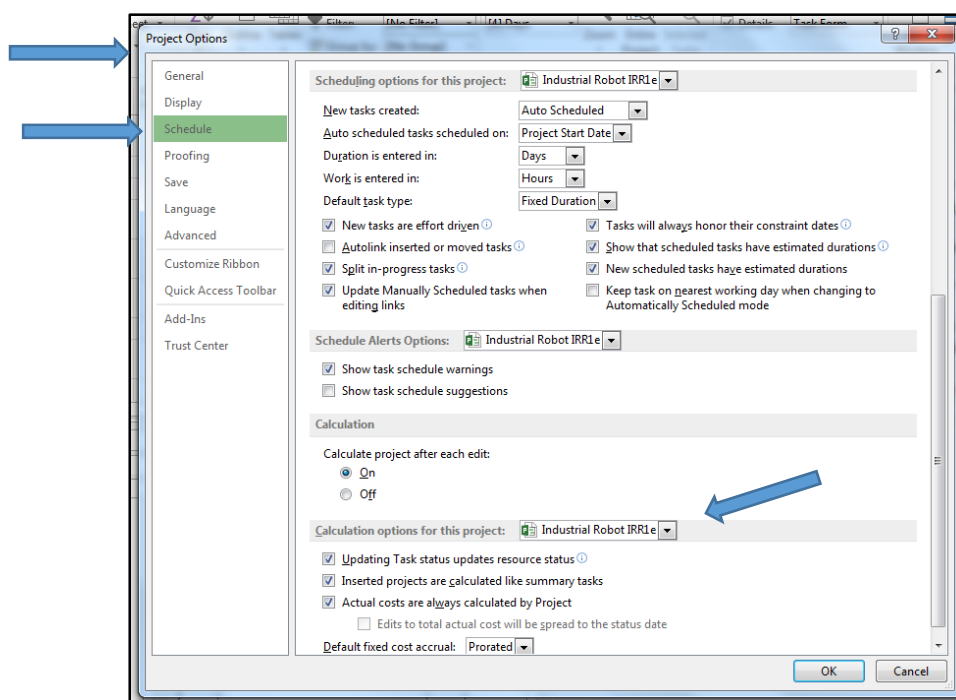

Figure 44
- Go to the File tab and click Options. Then select Schedule and scroll down to Calculation Options for This Project. Make sure the first checkbox, Updating Tasks Status Updates Resource Status, is turned on (Figure 44). This tells project to take the progress values you enter and roll them down to the individual resource assignments. Turn this on because updating tasks is faster than updating individual assignments.